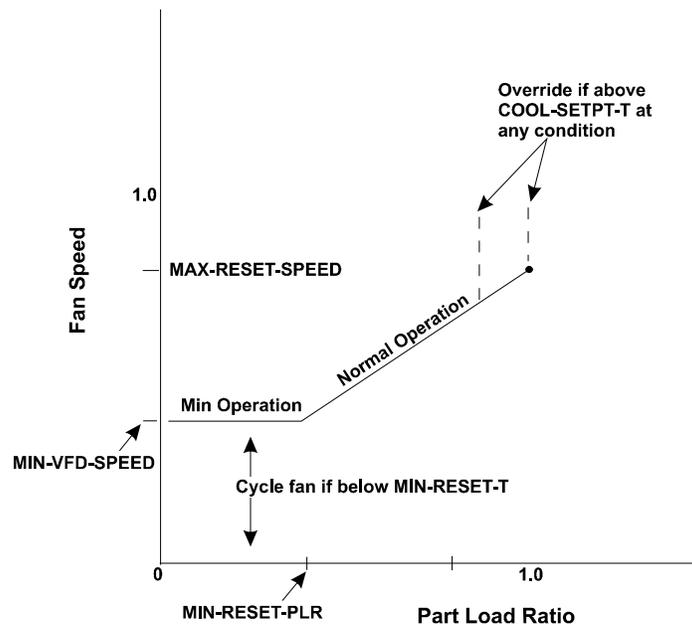

Figure 36 Heat-rejection load reset
The LOAD-RESET tower keywords are illustrated in Figure 36 and are as follows:
The minimum tower part load ratio below which a variable-speed tower fan is no longer modulated. Below this fraction, the fan speed is held constant at MIN-VFD-SPEED. This keyword allows you to investigate control sequence (3), above. This keyword is ignored for all control schemes other than LOAD-RESET. See Figure 36.
The minimum speed ratio below which the tower fan variable frequency drive should never operate. For control sequences other than LOAD-RESET, this keyword specifies the "critical speed" below which the tower fan should not operate. For the LOAD-RESET sequence, this keyword specifies the speed at which the fan will operate when the tower load is at MIN-RESET-PLR. The default is 0.4 except for dry coolers, where it is 0.2. See Figure 36.
The maximum speed ratio of a variable-speed tower fan during LOAD-RESET. The fan speed will not exceed this value, regardless of load, unless the tower temperature exceeds the CIRCULATION-LOOP's COOL-SETPT-T. If the tower temperature floats above the setpoint, then control reverts to FIXED for that hour, the fans are controlled to maintain the setpoint, and this keyword is ignored. The default is 0.8, which means that the fans will operate at 80% speed when the load is 100% of design, unless the COOL-SETPT-T is exceeded. See Figure 36.